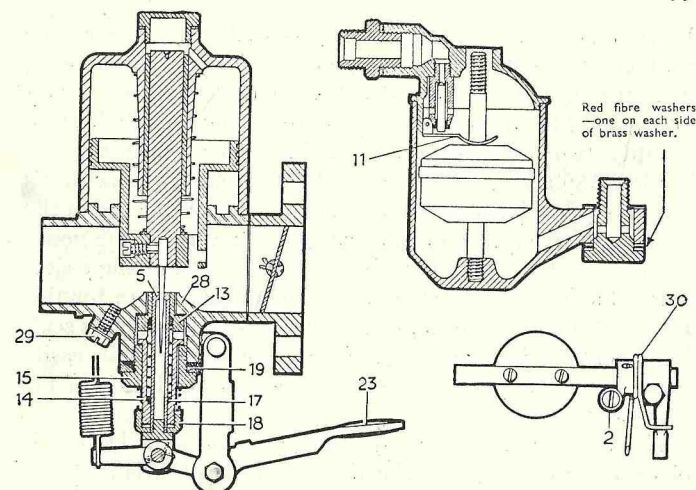

FIG. 58.—SECTIONAL VIEWS OF S.U. CARBURETTER, TYPE MC2.
After checking, if this is considered necessary, the type of needle fitted, tuning of the carburetter is necessarily confined to correct idling adjustment. This operation should be attempted only after the engine has attained normal running temperature, and is carried out by means of the throttle-stop screw (2, Fig. 58), which governs the amount of throttle opening for idling, and the jet-stop nut (18), which gives an enriching effect when screwed downwards, and a weakening effect when screwed upwards.
A second check on the correctness of the mixture strength may be made by unscrewing the hexagon-headed 2 B.A. plug screw (29, Fig. 58), immediately under the air intake (set in an angular position), and then with the engine idling a thin wire nail or similar type of metal rod is carefully pushed upwards until it lifts the suction piston, then any amount of manual lift over $\frac{3}{32}$ in. should cause the engine to stop from weakness of mixture, and therefore, this setting can be taken as correct;
Sticking of Piston.—The symptoms here are either stalling and a refusal of the engine to run slowly or, alternatively, lack of power accompanied by excessive fuel consumption. This defect is easily detectable. The piston should rest, when the engine is not running, upon the bridge (28, Fig. 58). When raised by means of a rod inserted through the 2 B.A. hole under the air intake, as previously described, to its highest position against the appreciable resistance of the piston, and then released, it should drop freely, and strike the bridge sharply and distinctly. If it becomes prematurely arrested in its downward movement, or if it appears unduly reluctant to break away from its position of rest on the bridge when an attempt is made to raise it from this position, the jet should be lowered by means of the enrichment mechanism and the test repeated.
Eccentricity of Jet and Needle.—Re-centring of the jet in relation to the needle will be necessary should the jet have become laterally displaced in service due to inadequate tightening of the locking screw (15, Fig. 58), or any other cause. This operation will, of course, also be necessary if the jet and its associated parts have been removed for any reason. It may also be necessary after the removal and replacement of a needle. The procedure for the re-centring of the jet is as follows.
The jet stop nut (18, Fig. 58) should first be screwed upwards to its fullest extent, the jet head then being raised to contact it so that the jet assumes its highest possible position. The locking screw (15) should now be loosened just sufficiently
A moderate side loading applied to the lower protruding part of the lower jet bush (14, Fig. 58) will indicate whether or not the assembly has been sufficiently freed. The piston should now be raised, and, maintaining the jet in its highest position, the piston should be allowed to drop. This will cause the needle to be driven fully into the jet mouth, and thus bring about the required centralisation. The locking screw should now be tightened and the jet returned to its former position. Should any indication of contact between the needle and the jet persist, which may sometimes occur due to further displacement of the assembly on finally tightening the locking screw, this must again be slacked off and the operation repeated.
Flooding also may occur if the original manufacturer's setting of the hinged fork lever (11, Fig. 58), in the top of the float chamber has been disturbed, possibly causing the petrol level to be higher than normal, this higher level giving a slow petrol bleed over the jet bridge. The setting figure for this fork is that with the fork pressing the needle home in its seating, then a $\frac{3}{8}$ -in.-diameter test bar should just slide easily between the curve of the fork and the circular facing of the float-lid casting.
Leakage from Bottom of Jet.—If persistent slow leakage is observed in the neighbourhood of the jet head, it is probable that the jet-gland washer (17, Fig. 58) and its lower counterpart, together with the locking-screw washer (19), require replacement. The jet lever (23) should first be detached from the jet head, the locking screw (15) removed, and the entire jet and jet-bush assembly withdrawn. On reassembly great care should be taken to replace all parts in their correct situations, as shown in the diagram. Re-centring of the jet, as previously described, will, of course, be necessary after this operation.